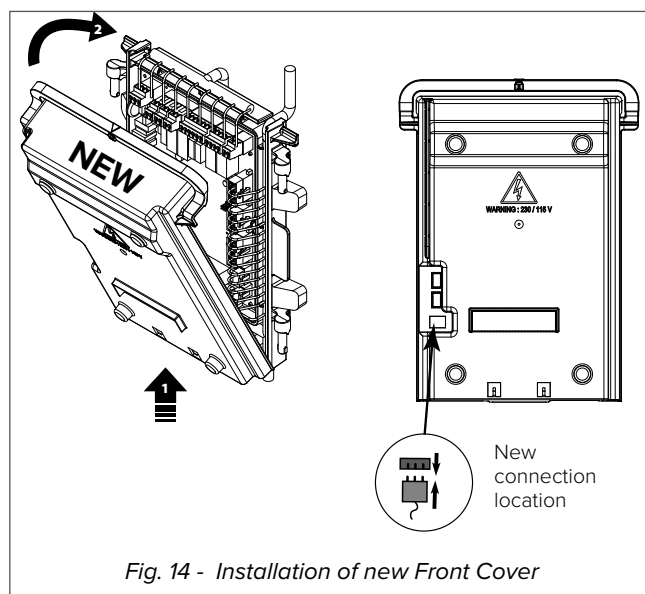

Fig. 14 - Installation of new Front Cover
13. Install the new control box front cover (See Fig. 14).
14. Connect the brown ionization cable at the front of the control box (See Fig. 14).